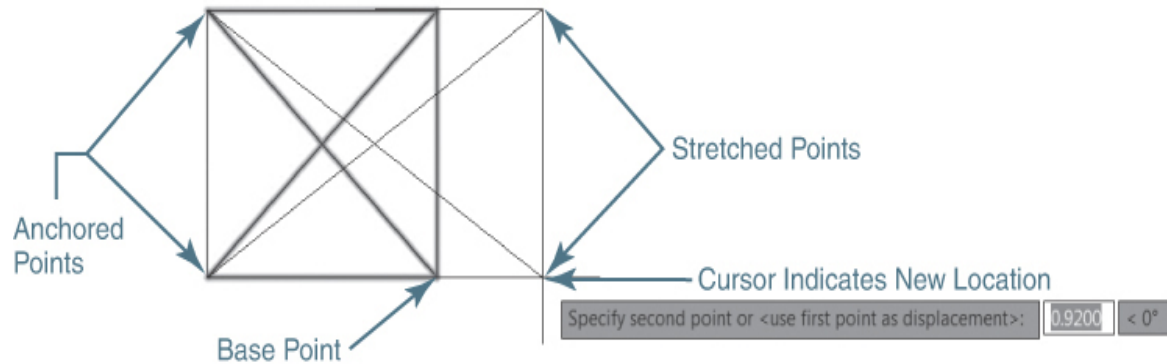

Figure 7-43
Using the first option, you typically pick a base (*from*) point by snapping to a key object feature using an object snap. You can then pick a destination (*to*) point, and the selected objects are stretched or moved to the new location, as shown in Figure 7-43.
Notice in Figure 7-43 that the **STRETCH** command leaves any points or vertices outside the crossing selection anchored in place so that they are unaffected by the move. This is useful when you need to move or stretch part of a drawing but leave other portions of the drawing intact.
- 5 Snap to the lower-right corner of the square using the **Endpoint** object snap, as shown in Figure 7-43. AutoCAD prompts *Specify second point or <use first point as displacement>:*.
- 6 Stretch the line endpoints to the right using a second pick point, as shown in Figure 7-43.